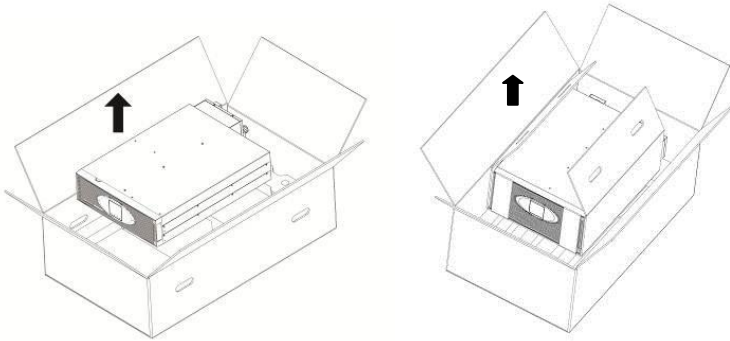

Figure 3: Unpacking the XANTO S 6000 and 10000
2. Carefully lift the UPS system out of the outer carton. Two people are required for this. For the XANTO S 10000, please use the handles on the inner carton (see Figure 3).